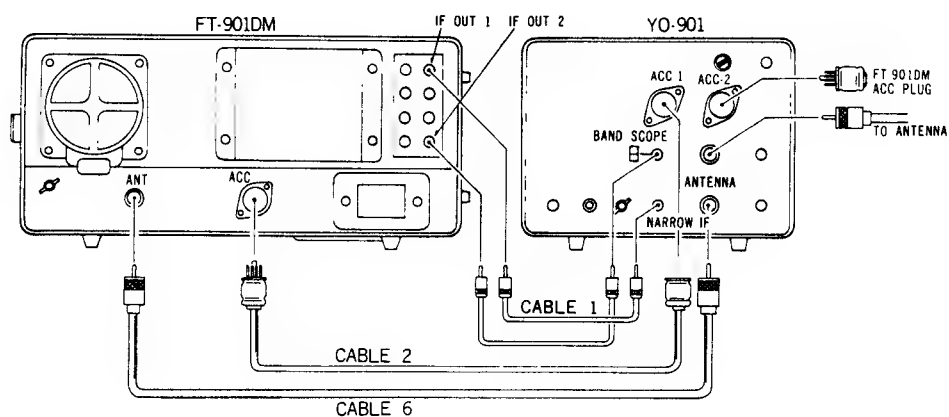

Figure 4
- (1) Make connections as shown on page 9 , Figure 4.
- (2) Press the IF button for input to the vertical amplifier.
- (3) Set the MODE switch to AUTO or BAND SCOPE.
- (4) As you tune the band, set the V. GAIN and VAR controls as required to produce a satisfactory display.